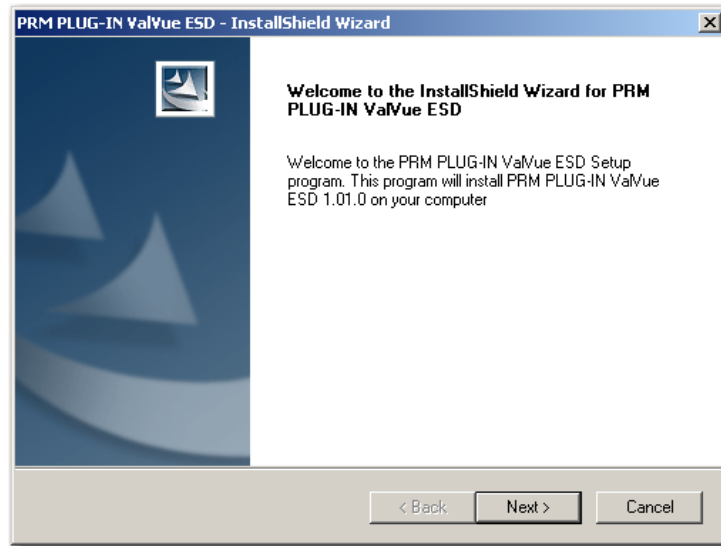

Figure 13 - Install Shield PRM Plug-In
2. Right-click on the downloaded *plug_in_valvue_ESD.exe* and select **Run as Administrator** and *Figure 13* appears.